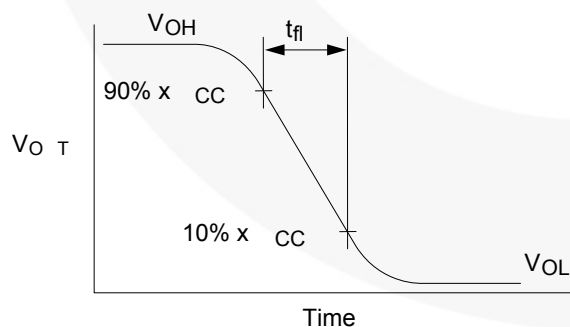

Figure 8. Active Output Fall Time
10. See Figure 8.
13. See Figure 8.